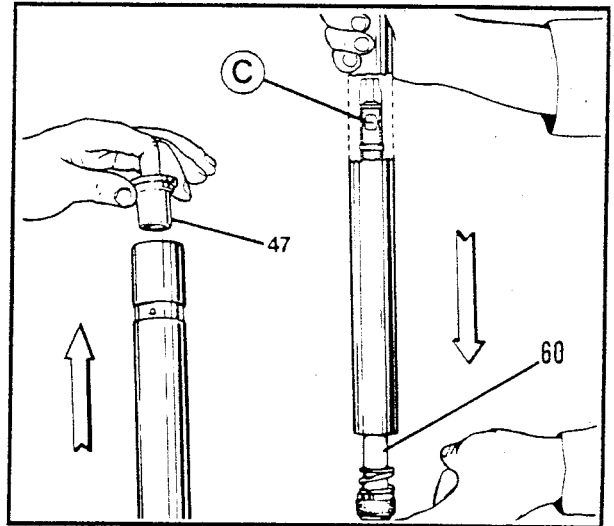

Figure 5-19. Damper Rod Removal
- See Figure 5-19. Remove the damper tube seat (47). Turn the tube upside down and shake it until the damper tube (60) comes out.